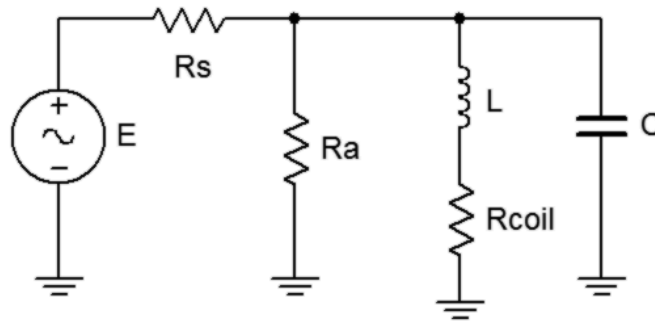

Figure 14.1
1. Using Figure 14.1 with $R_s=100\text{ k}\Omega$, $R_a=2.2\text{ k}\Omega$, $L=10\text{ mH}$, $R_{\text{coil}}=7\ \Omega$ and $C=10\text{ nF}$, determine the theoretical resonance frequency and Q , and record the results in Table 14.1. Based on these values determine the upper and lower frequencies defining the bandwidth, f_1 and f_2 , and record them in Table 14.1 also.
2. Build the circuit of Figure 14.1 using $R_s=100\text{ k}\Omega$, $R_a=2.2\text{ k}\Omega$, $L=10\text{ mH}$ and $C=10\text{ nF}$. Set the output of the generator to a 10 V p-p sine wave at the theoretical resonant frequency. The large value of R_s associated with the voltage source will make it appear as a current source equal to approximately 100 μA p-p, assuming the parallel branch impedance is much less than R_s . Place a probe across the parallel branch. Set the frequency to the theoretical resonance frequency of Table 14.1. Make sure that the *Bandwidth Limit* of the oscilloscope is engaged for both channels. This will reduce the signal noise and make for more accurate readings.